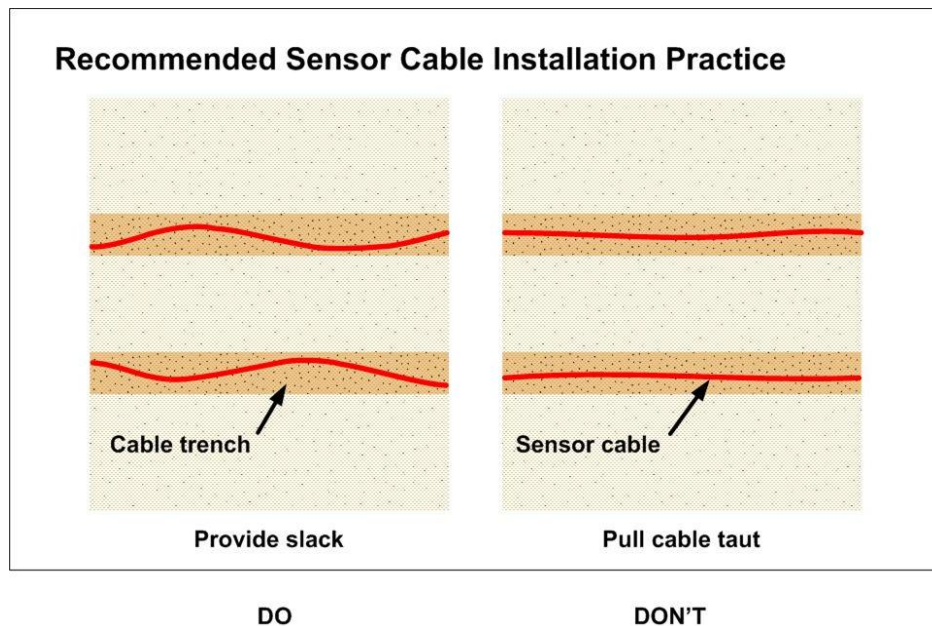

Figure 5.6 Install Sensor with some Slack to Provide for Strain Relief
- c. Stake-out the lead-in cables for the A side and B side for each cable set. See example shown in Figure 5.6.
- g. Now stake-out the path for the power and data lines from the first MTP to the control center. If there are more than four (4) MTP's, an additional power supply must be installed, and an
4. Install cables with sufficient slack so they can move with expanding and contracting soil. Do not tension the cables when laying them in the trench. See Figure 5.6 below.